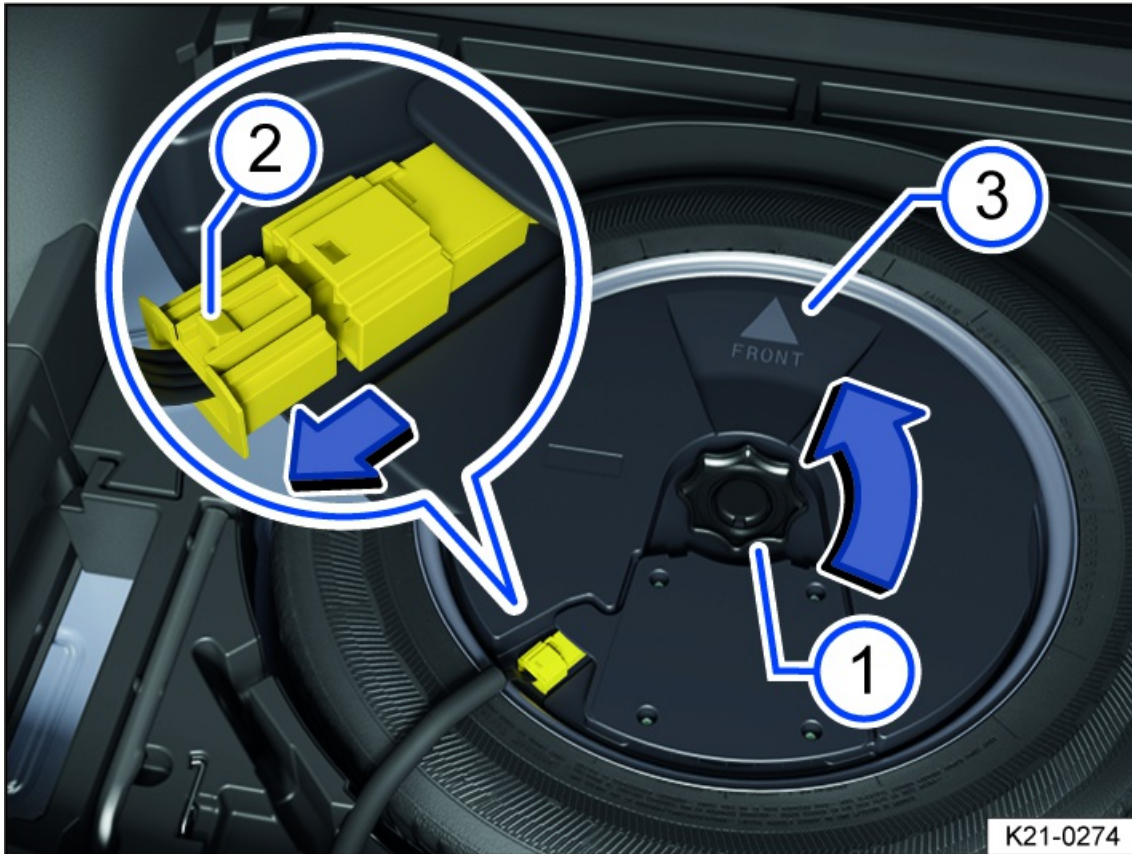

Fig. 171 Under the luggage compartment floor: removing the subwoofer (variant 2).
3. Unscrew the handwheel *fig. 171* in the direction of the arrow.
4. To release the connector, press the locking mechanism on the end of the connector *fig. 171*.
1. Place the subwoofer carefully in the rim well. The point of the “FRONT” *fig. 171* arrow symbol on the subwoofer must face forward.
2. Connect the connector until the lock *fig. 171* latches into place.
3. Turn the handwheel *fig. 171* on the threaded pin in the opposite direction to the arrow until the subwoofer is securely fastened.